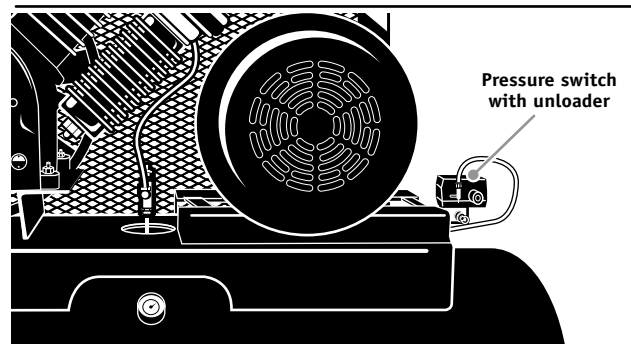

Figure 2: Install unloader line from check valve to pressure switch
4. Make sure there is a 1/4" copper tube (unloader tube) installed from tank check valve to unloader on pressure switch. This relieves head pressure when compressor stops for easier restart. See figure 2.